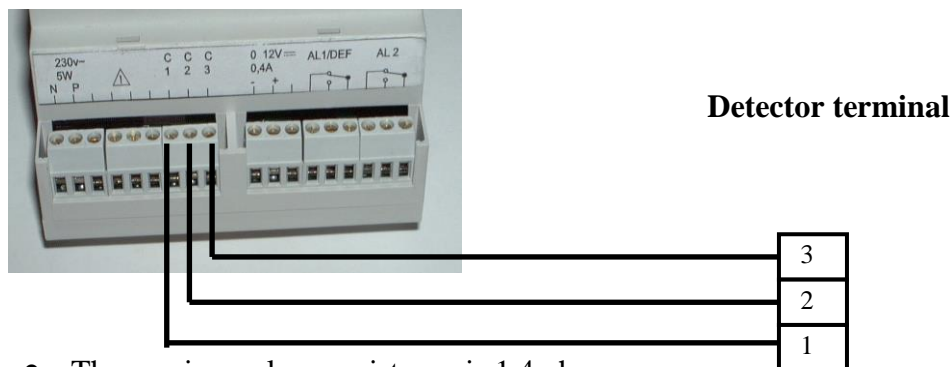

FIGURE 3
- Terminals C1, C2 and C3 of Surveyor 4B and the detector are to be connected in opposite mode (see Fig. 3).